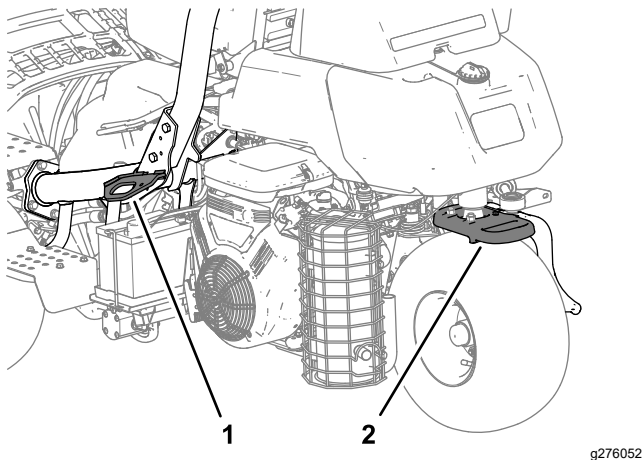

Figure 23
- Tie the machine down securely using straps, chains, cable, or ropes. Both front and rear straps should be directed down and outward from the machine (Figure 23).